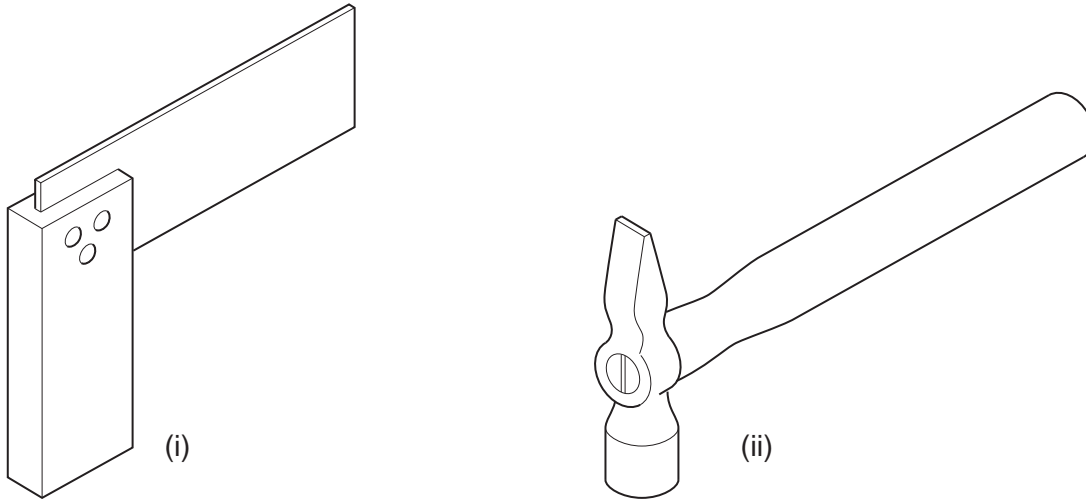

Fig. 3
- 4 (a) Name the tools shown in Fig. 3.
- (b) State the main use of the tools shown in Fig. 3.